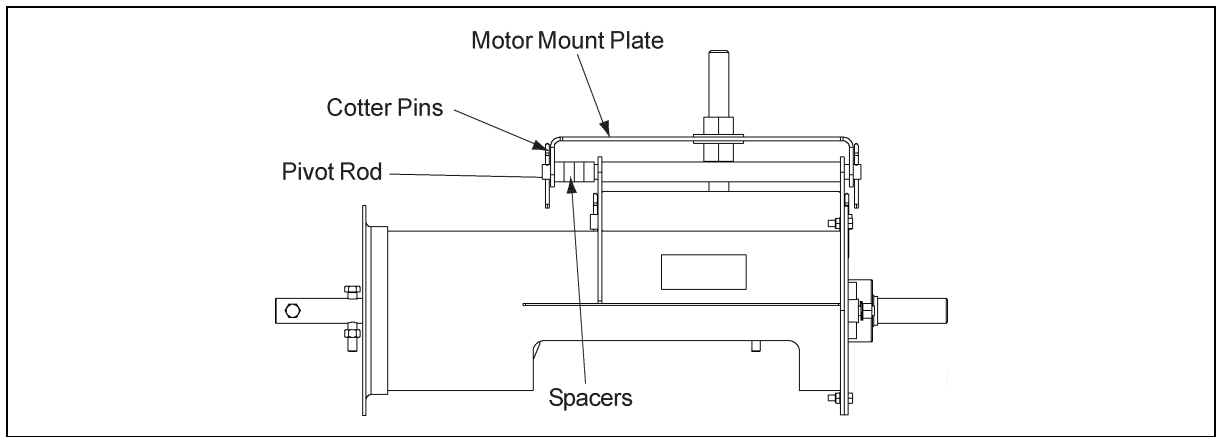

Figure 4F
- D. When the pivot rod begins to extend through the pivot tube install the spacers, BETWEEN the Back Plate and the inner face of the Motor Mount Plate. (See Figure 4F).